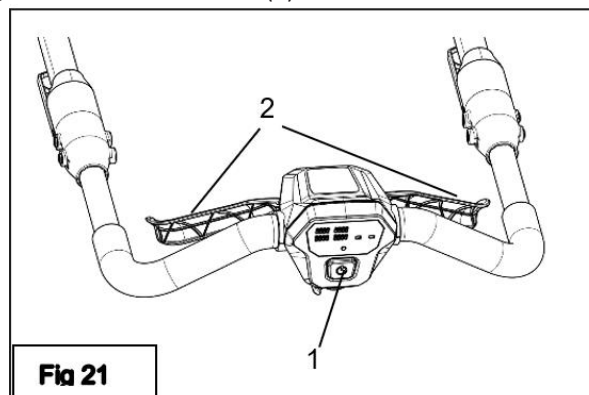

Fig 21
3. Hold the Safety Button (1), then hold either the left or right OPC Lever (2) at the same time. The motor will start and cutting blade rotate (Fig.21). Once the motor is running, you can release the Safety Button (1) during operation and use both hands on the OPC Levers (2).
4. To stop the machine, release the OPC Levers (2)